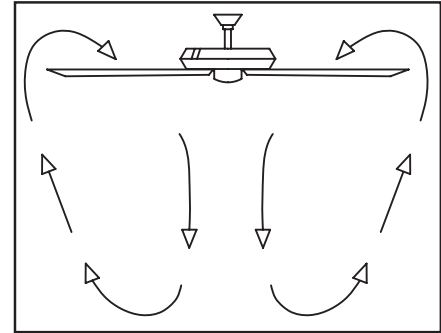

Figure 18
**Warm weather** - (Forward) A downward air flow creates a cooling effect as shown in Figure 18. This allows you to set your air conditioner on a higher setting without affecting your comfort.